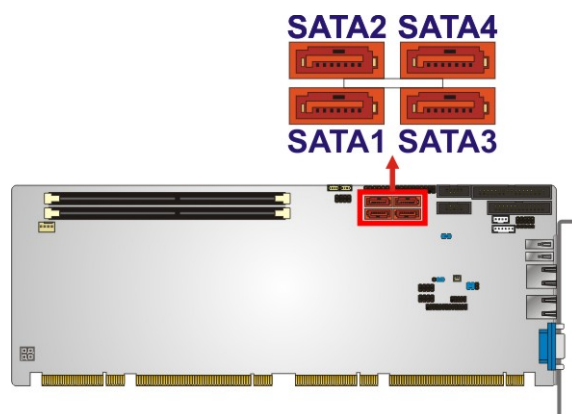

Figure 3-15: SATA 3Gb/s Drive Connector Location
**CN Location:** See Figure 3-15